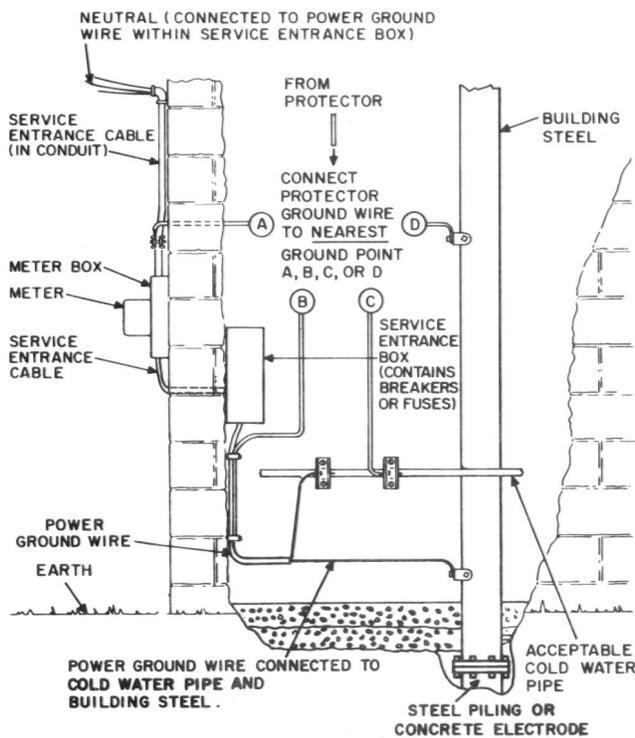

Fig. 45—Acceptable Water System or Building Ground (Power Service Grounded to Cold Water Pipe or Building Steel)
- 6.04** Station protectors installed at locations with the power grounded to an acceptable water pipe, as described in paragraph 6.01, should be grounded as shown in Fig. 45 or installed directly on the water pipe.
a separate ground rod, and the protector should be grounded as shown in Fig. 45.
6.10 Use Table D to select the best protector ground. Table D is designed to help identify the best ground electrode available for most job situations. The decision blocks contain questions regarding the conditions for grounding, the responses to which will lead to the selection of an acceptable ground. The table should be followed until the last block in the path is reached. The referenced notes and figures (Fig. 45 through 51) provide additional information and installation procedures.